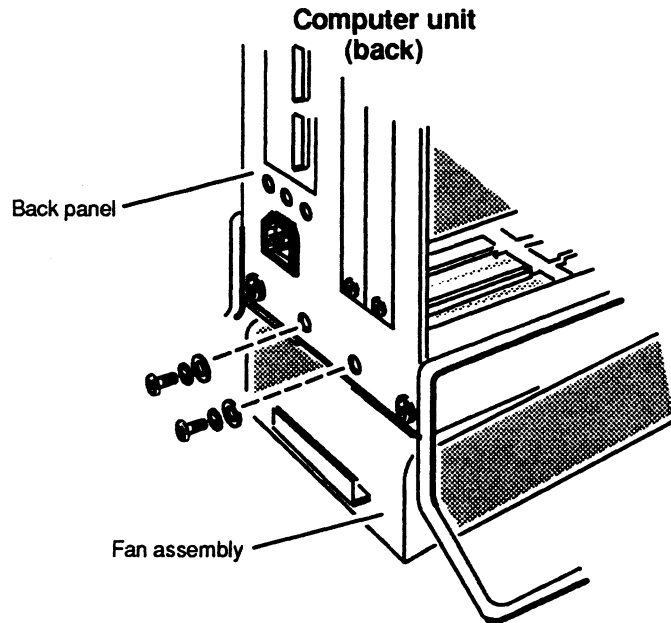

Figure 6–18 Securing the Fan Assembly from the Back of the Computer Unit
5. Support the bottom of the back of the fan assembly. Using a medium Phillips screwdriver, secure the fan assembly to the back of the computer unit with the two screws and washers shown in Figure 6–18.